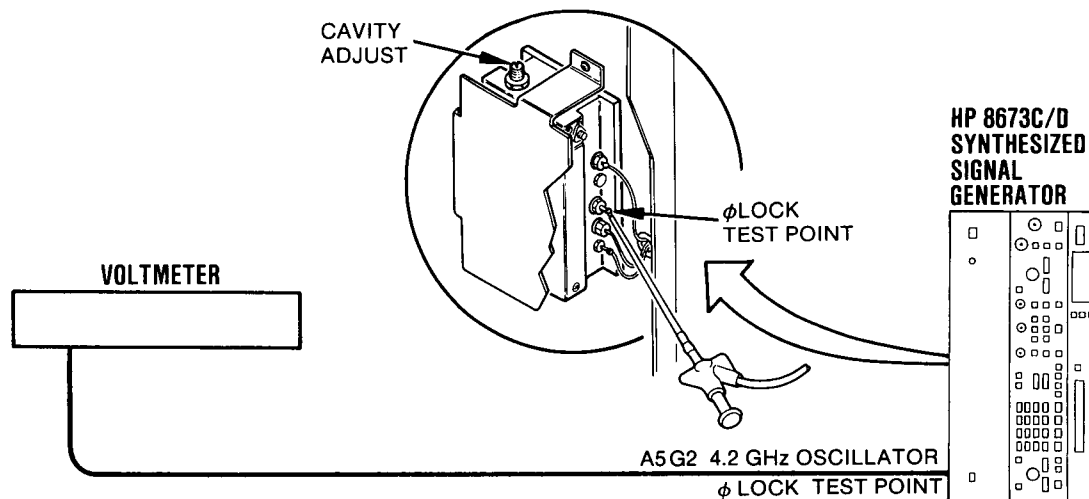

Figure 5-32. 4.2 GHz Oscillator Adjustment Test Setup
1. Connect the voltmeter to TP ϕ LOCK on A5G2 oscillator assembly. See Figure 5-32.A convenient test clip for this is HP Part No. 1490-0025, which has a 4-inch probe.